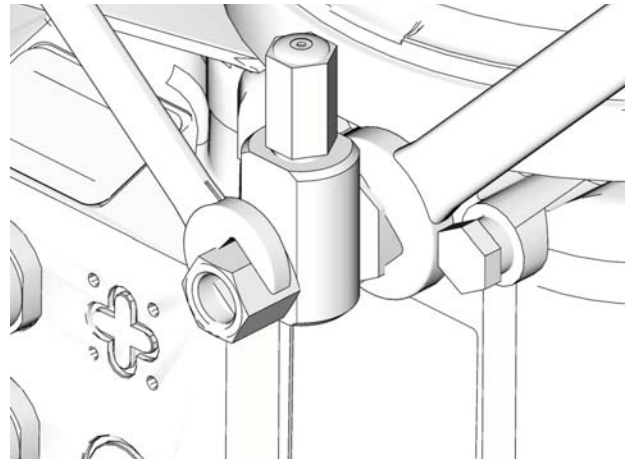

FIG. 18
1. Loosen pump element fitting (FIG. 18).
3. Tighten pump element fitting using two wrenches working in opposite directions (FIG. 18).